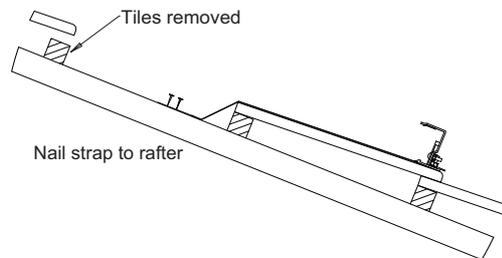

Figure 11 - Mount Lower Collector Rail
- Attach the collector mounting straps to the rafter or truss under the tiles as shown in **Figure 11**.